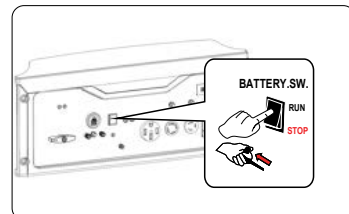

Fig 17
1. Turn the battery switch to the "STOP" position. (See fig 17)